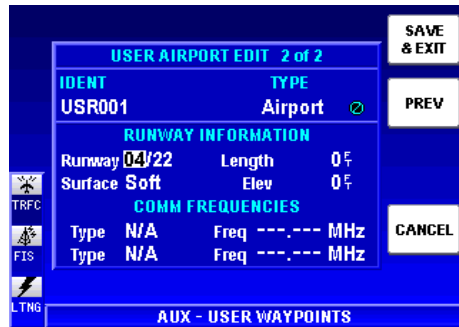

Figure 1-84
4. Turn the Rotary Knob to enter the desired runway orientation. Values of 01/19 through 18/36 may be entered as seen in Figure 1-84. Note that when a value entered, the airport icon now reflects a runway with the entered orientation.